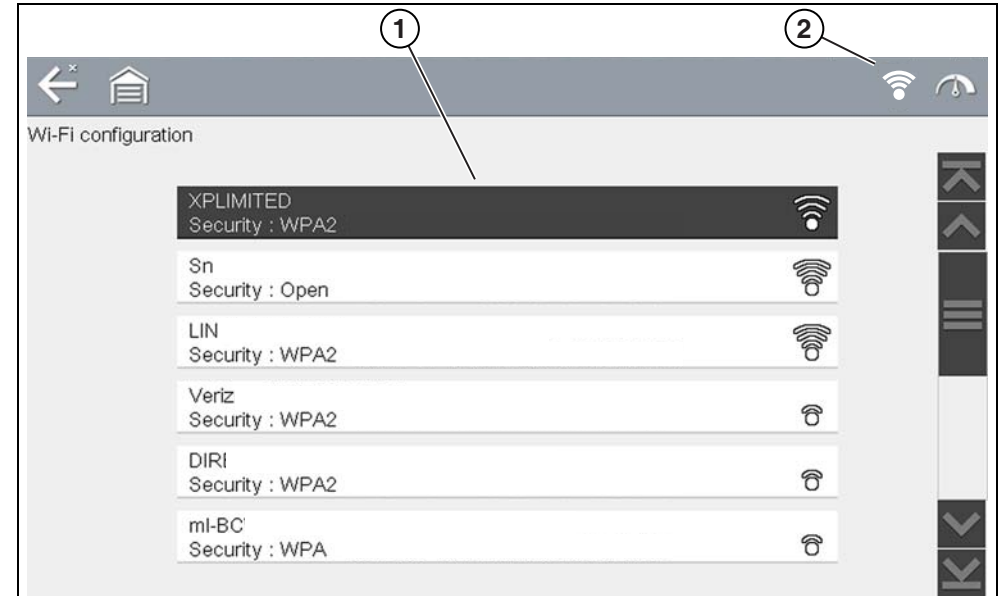

Figure 15-2 Wi-Fi Configuration Screen
- Select your network. Use the scroll feature to show all active connections (Figure 15-2).